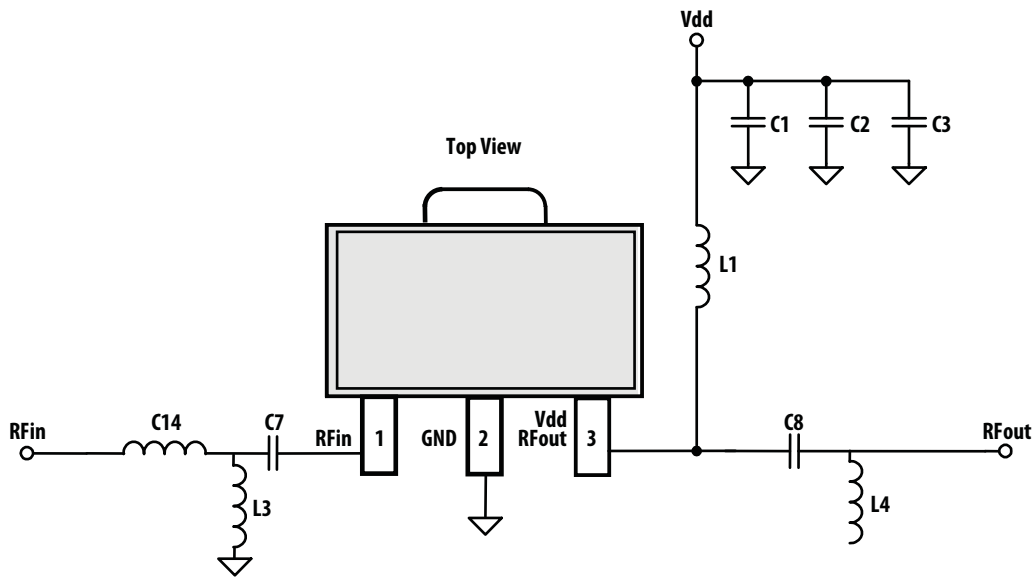

Figure 30. Application Schematic
1. Measurements obtained using demo board described in Figure 30 and 31. 3.5GHz data was taken with 3GHz - 4GHz Application Test Circuit and 5GHz data with 1.5GHz - 2.6GHz Application Test Circuit respectively.
T_A = 25°C, V_{dd} = 5V, Input Signal=CW. Application Test Circuit is shown in Figure 30 and Table 2.
T_A = 25°C, V_{dd} = 5V, Input Signal=CW. Application Test Circuit is shown in Figure 30 and Table 3.